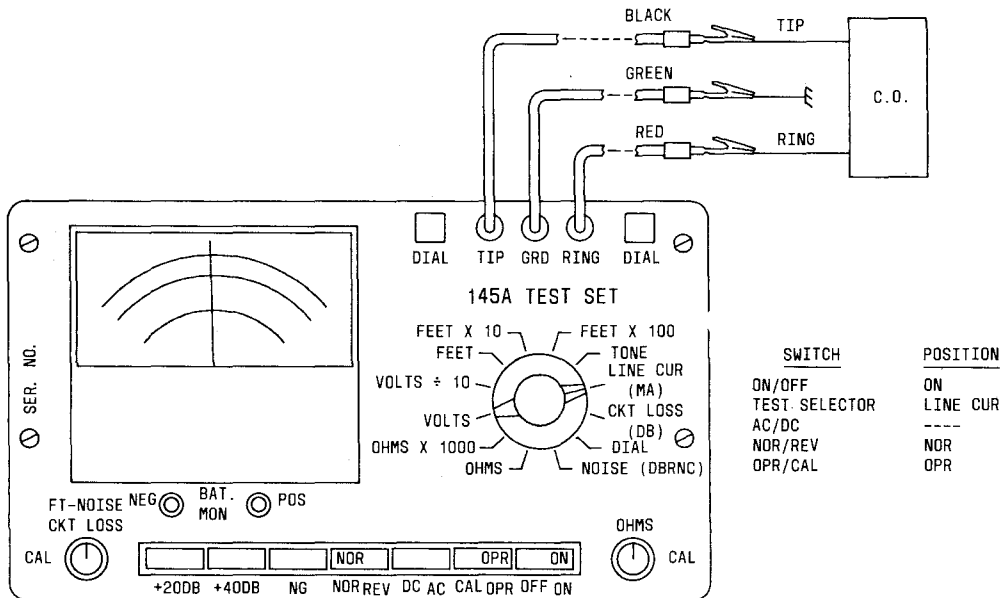

Fig. 11—Line Current Testing
4.07 Line Current Testing (Fig. 11): This test measures the amount of line current that is being received from the CO for operation of a station telephone set. The measurement should be made at the customer's premises. The following steps must be used when making this test:
- (b) Turn the test selector knob to the LINE CUR (MA) position.